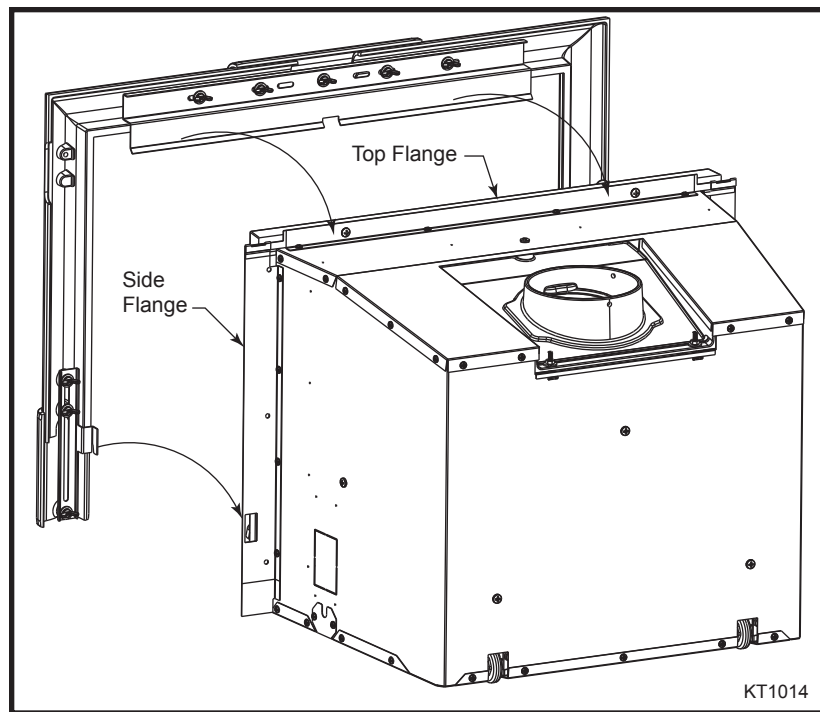

Fig. 7 Lift surround up and over top flange and up and through side flange holes.
6. Fasten the upper mounting bracket to both column assemblies using two (2) 1/4-20 wing screws and two (2) 1/4 flat washers per side, finger tight. The distance between the insides of the columns should measure 29 $\frac{1}{4}$ " (743 mm).
8. Position the surround in front of the insert and, with the help of an assistant, gently lift the surround up and over the top sheet metal flange. At the same time, align the bottom brackets through the slots on the side flange. As you lower the surround onto the insert, the side clips and top bracket will engage. If height and width adjustments are required, lift the surround up and out. Make the adjustments. Regardless if adjustments were made or not, tighten all wing screws fasteners and return the surround to the insert. (Fig. 7)